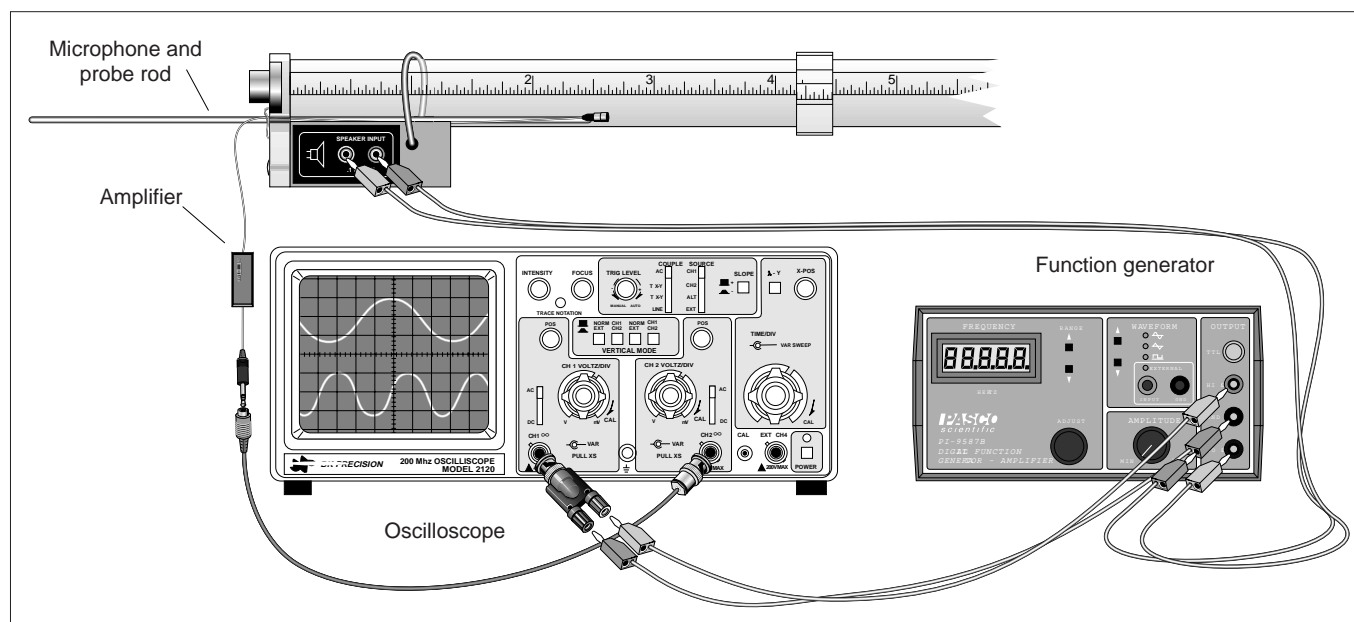

Figure 2.1 Equipment Setup
- ① Set up the Resonance Tube, oscilloscope, and function generator as shown in Figure 2.1. Turn on the oscilloscope. Set the sweep speed to 5 ms/div and the gain on channel one to approximately 5 mV/div.